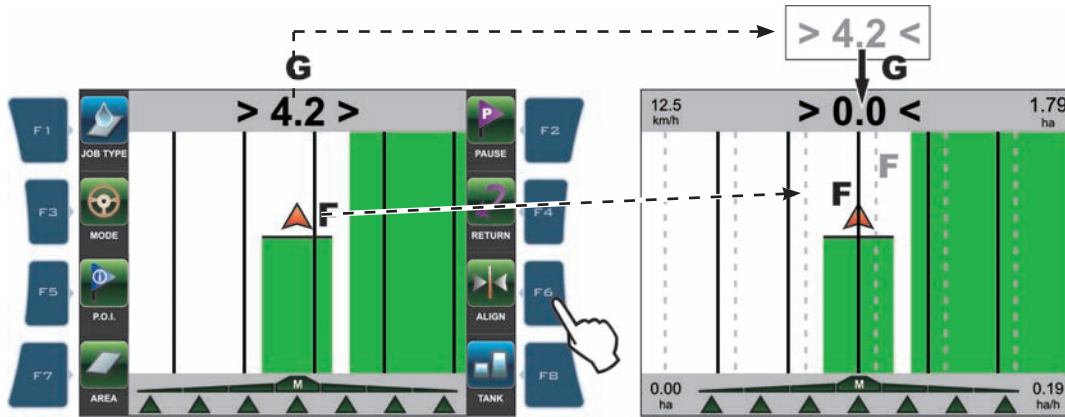

Fig. 242
- The "old" reference track **F** (Fig. 242) shifts and aligns to tractor centre: all other reference tracks shift accordingly.